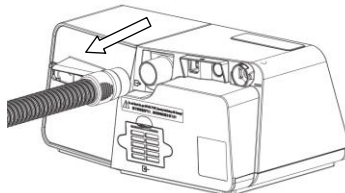
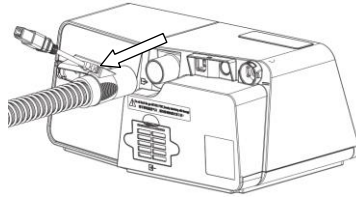

Fig. 16-4
Fig. 16-5
(1) Remove the tubing from the device and mask before cleaning.
(2) Hold the cuff of the air tubing and gently pull it away from the device as shown in Fig. 16-4. Or disconnect the power of the heated tubing, then hold the cuff of the heated tubing and pull it away from the device, as shown in Fig. 16-5.